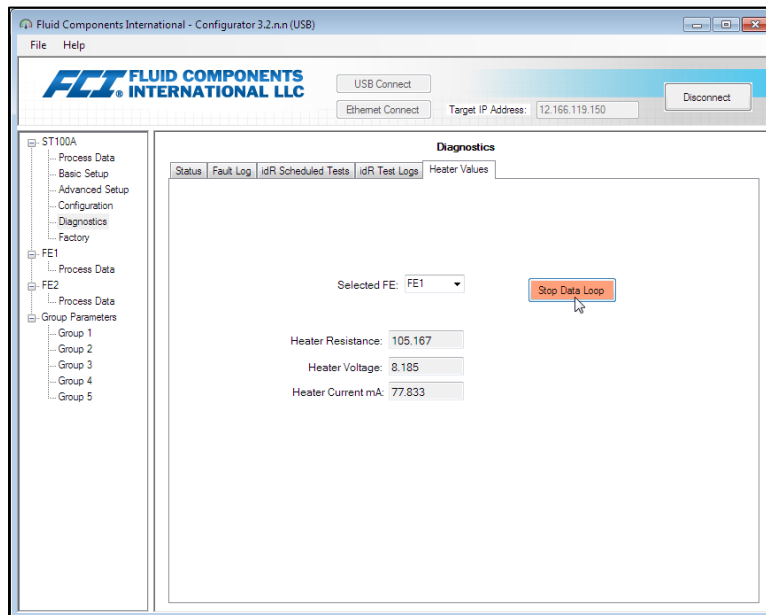

Figure 70 – Example Heater Values Tab (Diagnostics)
1. Access the **Heater Values** tab from the **Diagnostics** branch of the menu tree. See Figure 70 below.